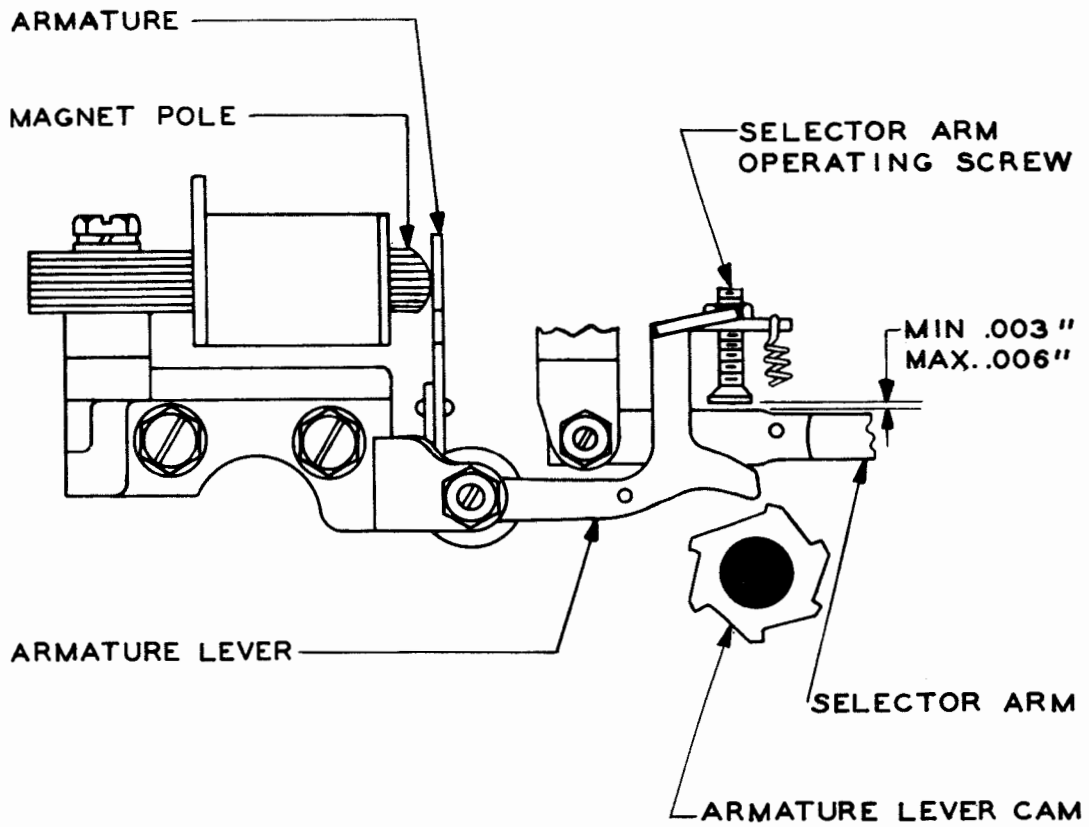
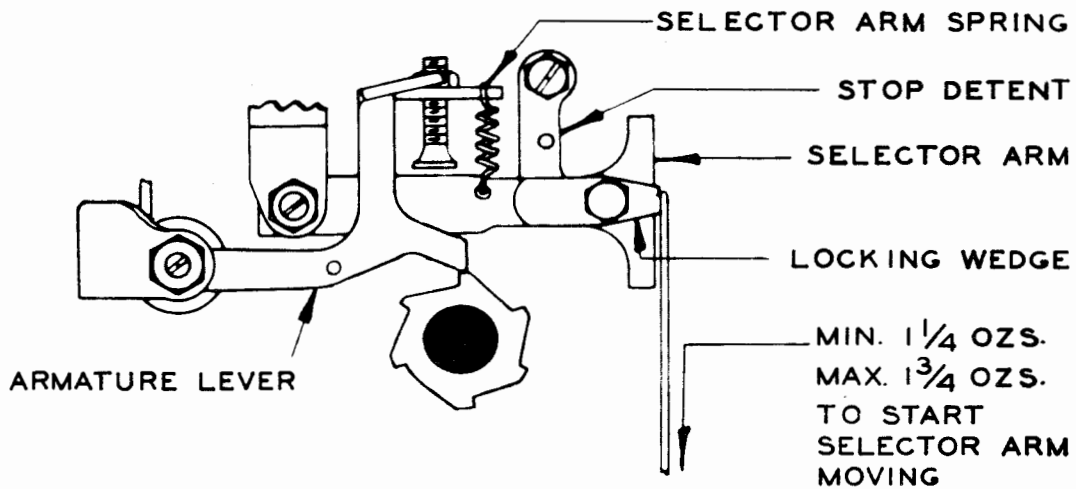

Figure 12
Figure 13
With the selector magnet energized, the clearance between the selector arm (in its marking position) and its operating screw should be: (1) when the armature lever is opposite a cam indent, minimum 0.003 inch, maximum 0.006 inch (see Figure 13) and (2) when the armature lever is on a cam peak, minimum 0.004 inch, maximum 0.006 inch greater than the particular value observed in (1) above. (See Figure 12.)
2.16 Selector-arm Spring (holding magnet) should require a pull of minimum 1-1/4 ounces, maximum 1-3/4 ounces, as indicated in Figure 13, to start the selector arm moving when the armature lever is on a high part of its cam and the selector-arm stop-detent spring is unhooked.